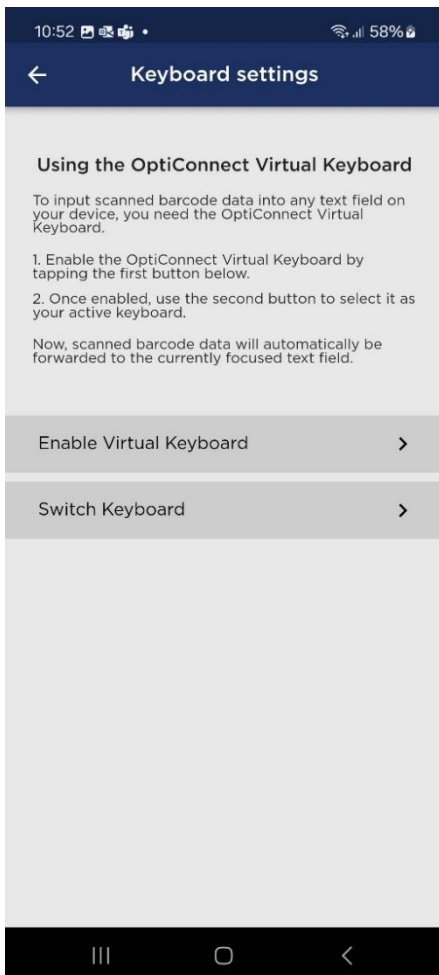

Figure 10-1: The *Keyboard settings* page to setup the OptiConnect Virtual Keyboard.
- Open the OptiConnect settings page and navigate to the *Keyboard settings* page (see Figure 10-1).